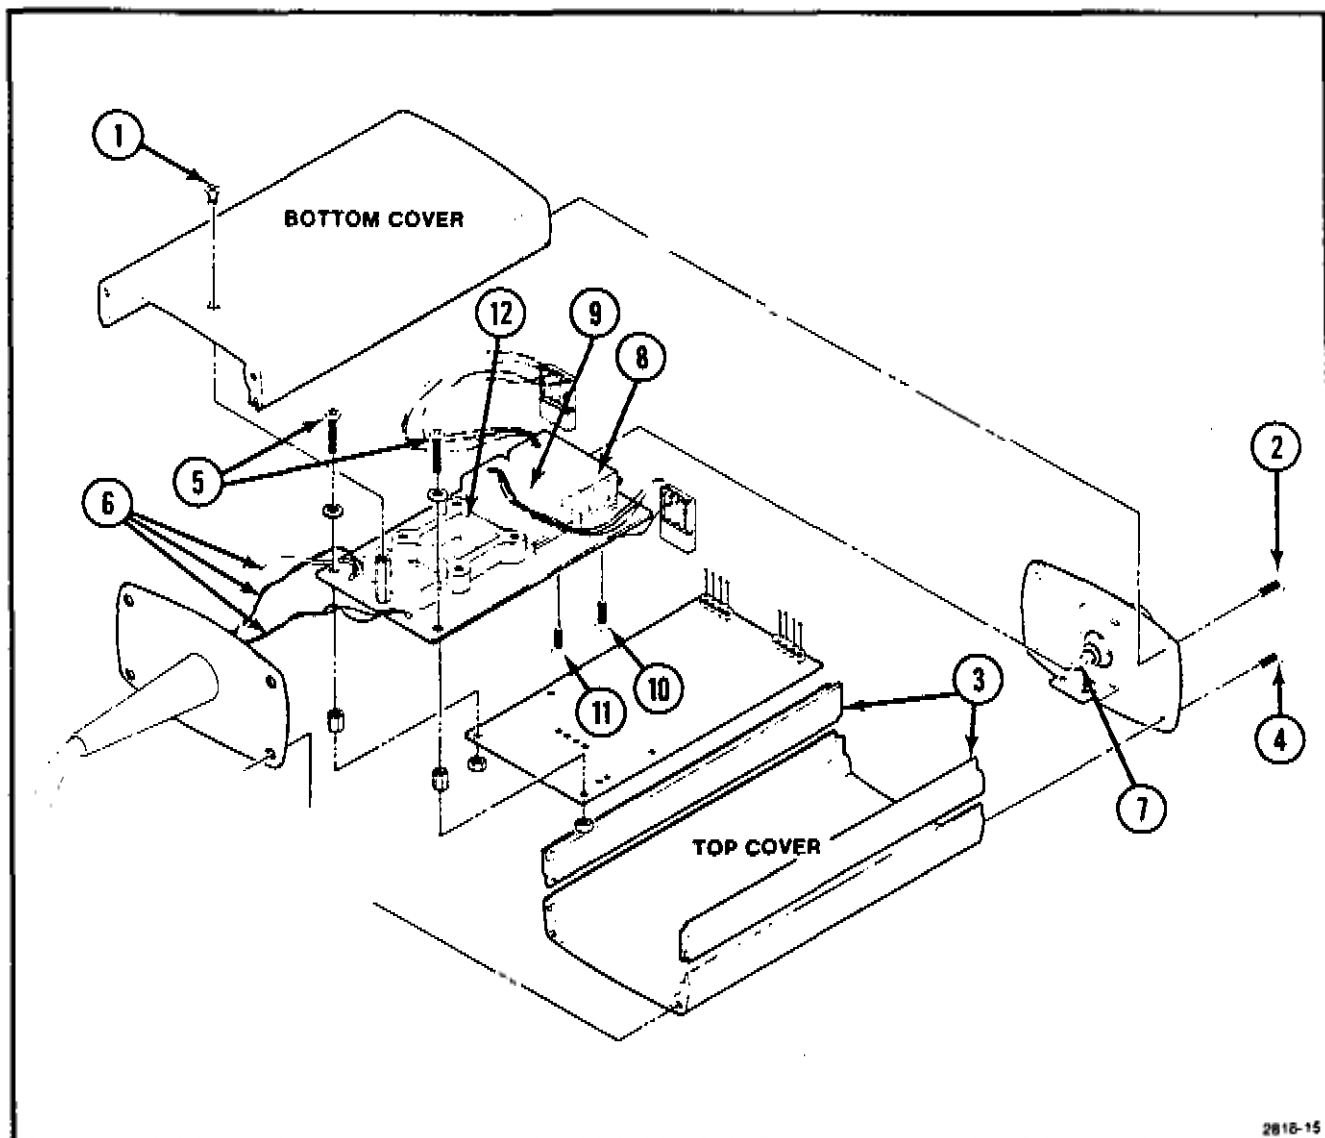

Fig. 5-1. Maintenance diagram (exploded view).
Refer to Fig. 5-1 for the following procedures:
The Hypcon Connector and hybrid IC (see Fig. 5-1, ⑫) should be removed if it is necessary to use a cleaning solvent near (1/2") the connector.
Board Removal and Replacement (See Fig. 5-1).
Log Cell Removal and Replacement (Refer to Fig. 5-1)